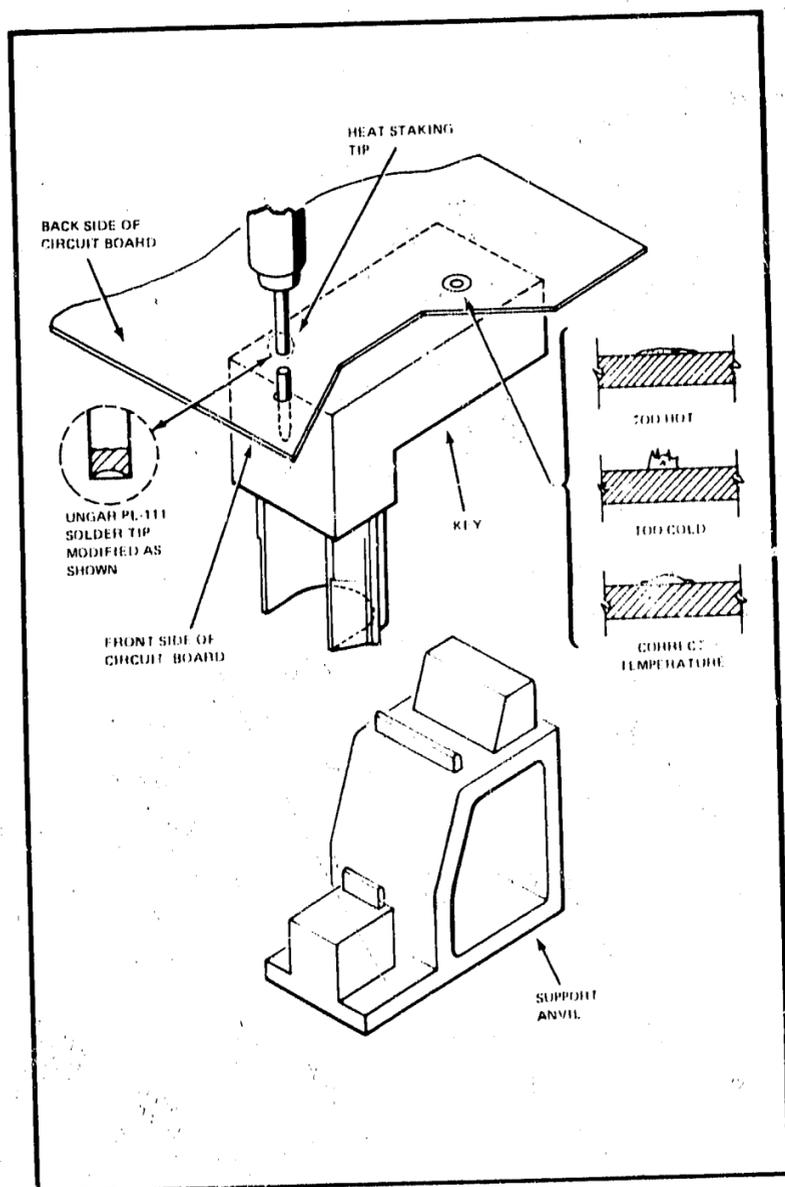

Figure 8-3. Typical Assembly for Heat Staking Operation
5. For reliable operation, any method of assembly must assure that the switch is mounted tightly against the pc board. To facilitate the heat staking operation, specially molded support anvils (HP 5040-6881) can be ordered. (See Figure 8-3)
6. To assure proper switch assembly, verify that the switch is pushed firmly against the circuit board and with the hot (440C or 825F) staking tip (see Figure 8-3), push down on both posts of the switch. With the proper cycle, the post initially turns a darker color and in about ten seconds, returns to its original bright red color. The correctly staked post should have a smooth, round, "rivet-like" top (see Figure 8-3).